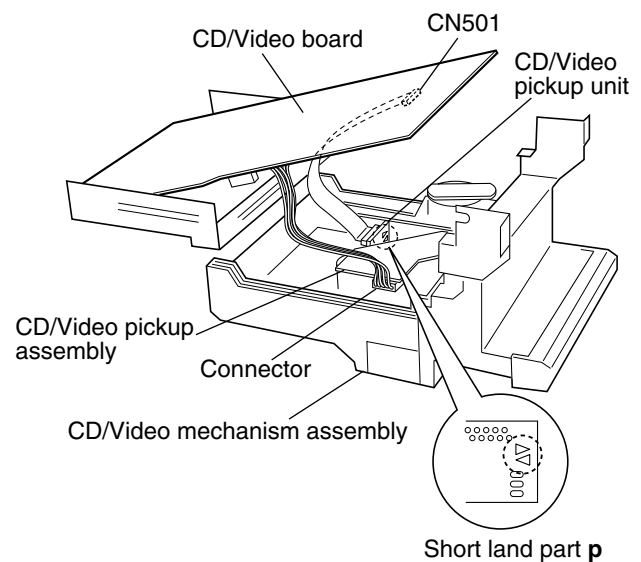

Fig.27
**[Caution]** • Be sure to solder the short land part **p** on the CD/Video pickup unit before disconnecting the card wire from the CD/Video pickup assembly (see Fig. 27).